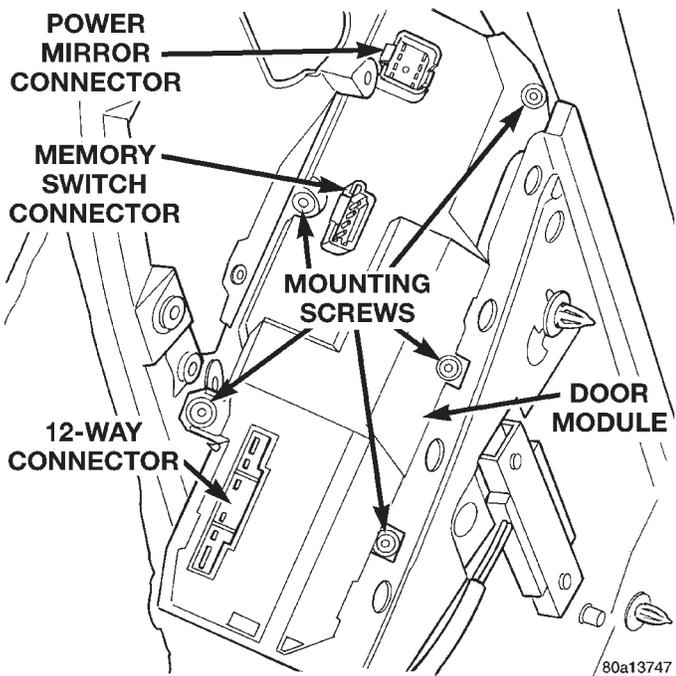

Fig. 2 Door Module Remove/Install
- (8) Pull the front door trim panel away from the inner door panel far enough to access and unplug the wire harness connectors from the door module and, if the vehicle is so equipped, from the front door courtesy lamp.
- (9) Remove the five screws that secure the door module to the back of the front door trim panel (Fig. 2).